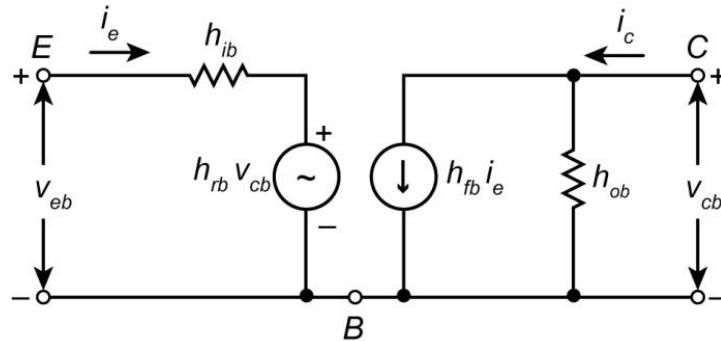

Fig. 5.14: Hybrid circuit of CB configuration.
For calculating the current gain, voltage gain, input impedance and output impedance, we need to use the CB parameters h_{ib} , h_{rb} , h_{jb} and h_{ob} as shown in Fig. 5.14.
1. Using the hybrid circuit for the CB configuration shown in Fig. 5.14, prove that $h_{fb} = \frac{h_{fe}}{1 + h_{fe}}$.